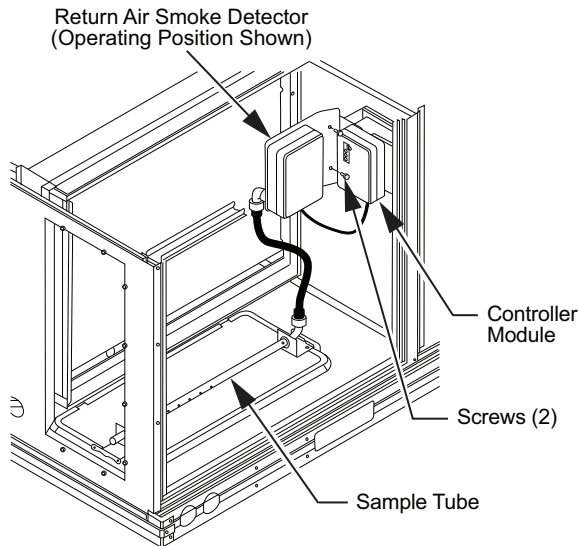

Fig. 47 — Return Air Smoke Detector Operating Position
3. Rotate the detector plate so the sensor is facing outwards and the sampling tube connection is on the bottom. See Fig. 47.